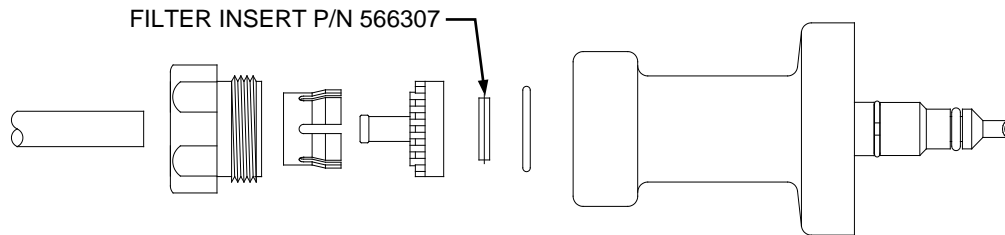

Figure 4. Concentrate and Bicarbonate Connector Assemblies.
2. Filters in the Concentrate and Bicarbonate Connectors (See Figure 4.).